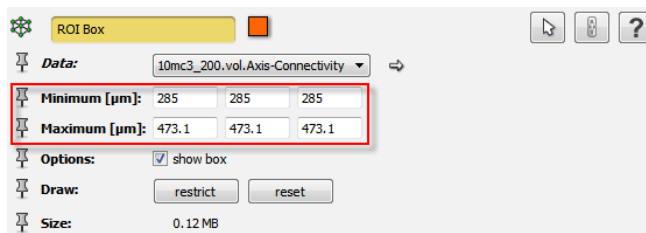

Figure 14.15: Modified parameters of the *Display > ROI Box* module are highlighted by the red rectangle.
- Set the three editable fields of the *Minimum* port of this new module to 285 and the three editable fields of the *Maximum* port to 473.1. See Figure 14.15.